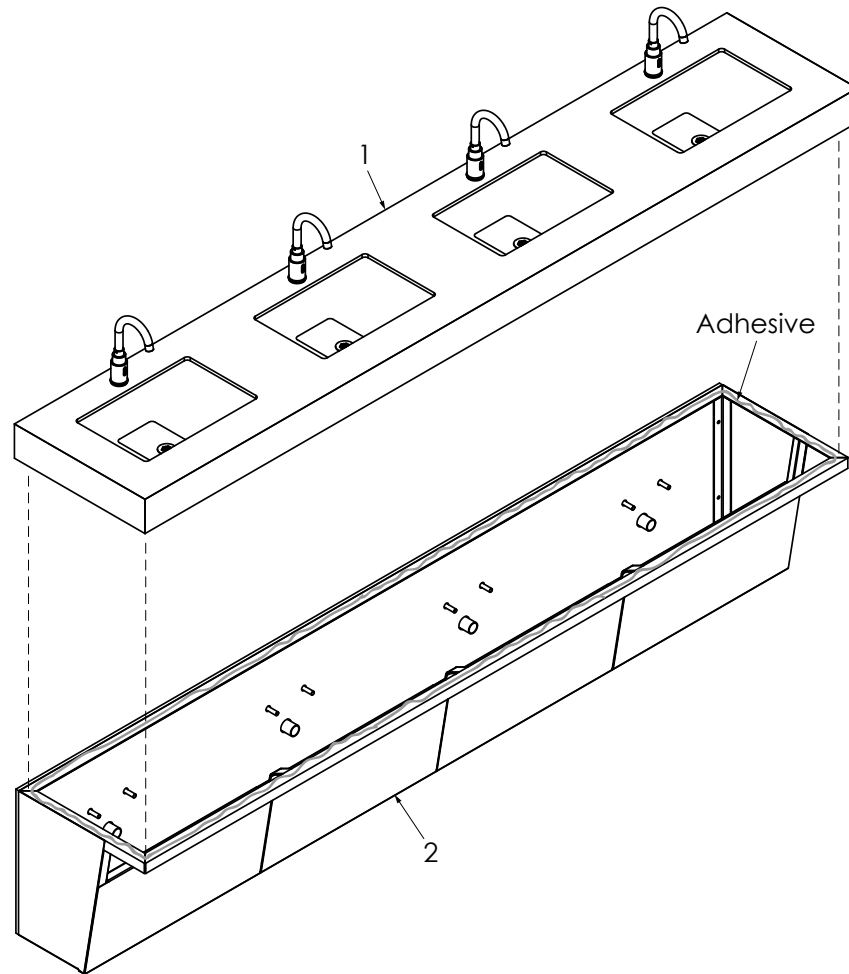

Figure 4
4. Install Counter Top (1, Figure 4) onto Enclosure (2).
- a. Apply adhesive (not supplied) to the top of the Enclosure (2).
- b. Lower Counter Top (1) onto Enclosure (2). Shim all gaps between Enclosure (2) and Counter Top (1).
- d. Apply adhesive (supplied by others) to the bottom and back of Back Splash (3).
- e. Position Back Splash (3) to the Back of Counter Top (1) and firmly press against Counter Top (1) and wall.